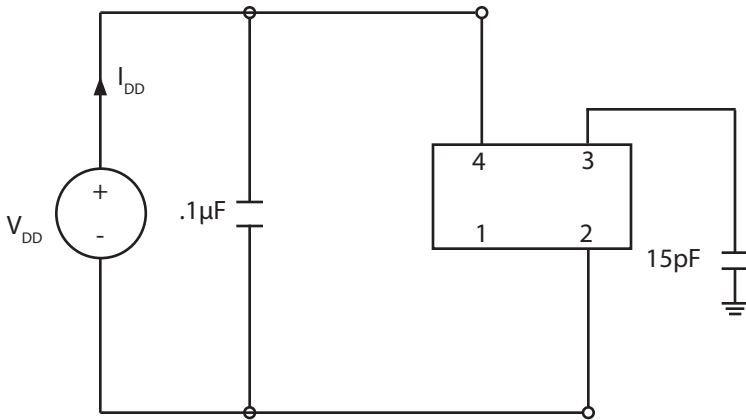
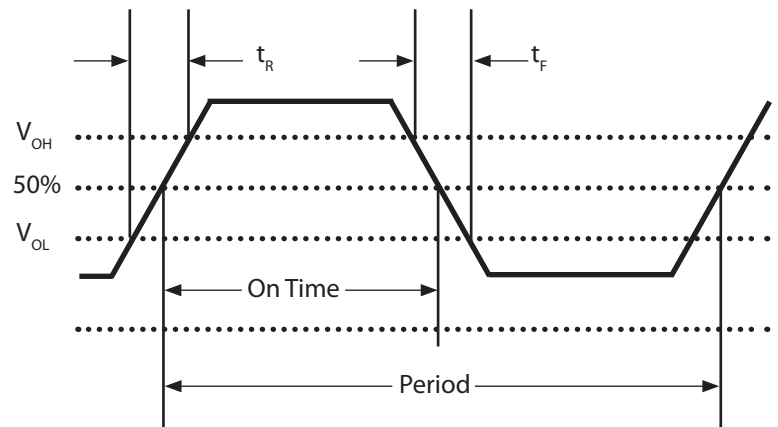

Fig 1: Test Circuit
Fig 2: Output Waveform
- 3] Figure 2 defines these parameters. Figure 1 illustrates the operating conditions under which these parameters are tested and specified.